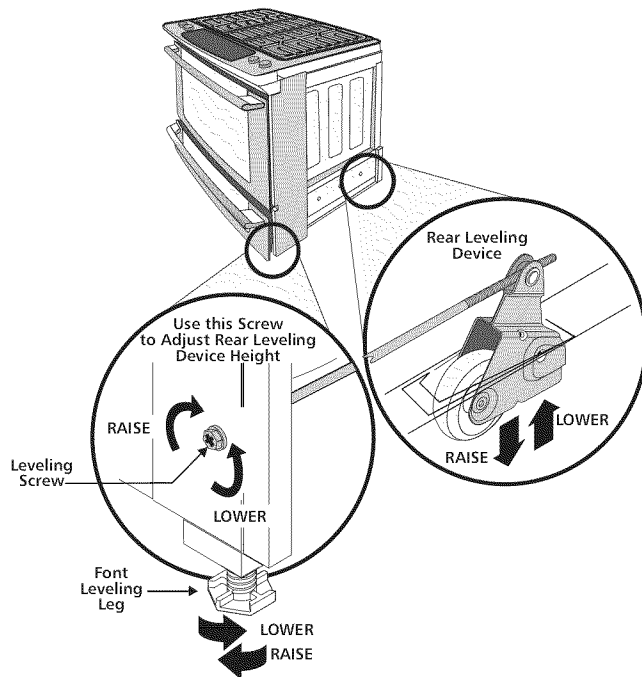

Figure 7
2. Adjust the appliance legs and wheels as follows until the underside of the cooktop surface is sitting level on the countertop (Figure 7).